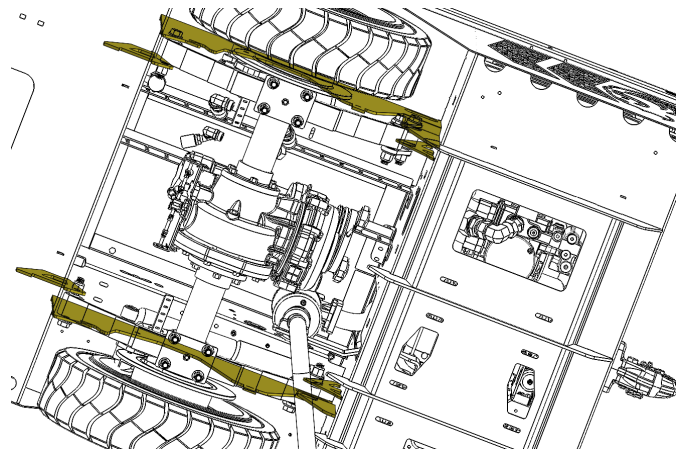

Figure 41. Rear Suspension Mounting Tabs.
- Front suspension mounting tabs (see Figure 41).